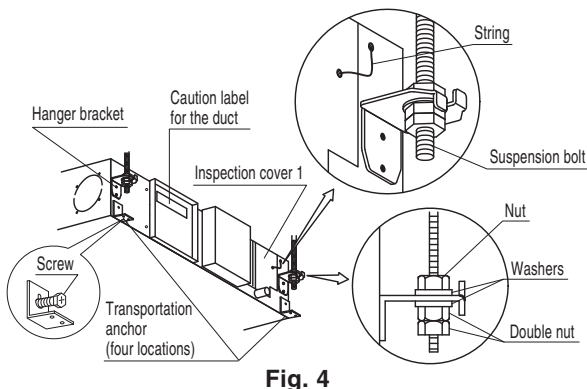

Fig. 4
(1) Install the unit temporarily.
- Attach the hanger bracket to the suspension bolt. Be sure to fix it securely by using nuts (locally procured) and washers (M10·W3/8 with external dia. 30 to 34 mm, M12 with external dia. 32 to 37 mm) (locally procured) from the upper and lower sides of the hanger bracket. (Refer to Fig. 4)
- Do not pass the suspension bolts through the string on the inspection cover 1. (Refer to Fig. 4)
(2) Remove the four transportation anchors.